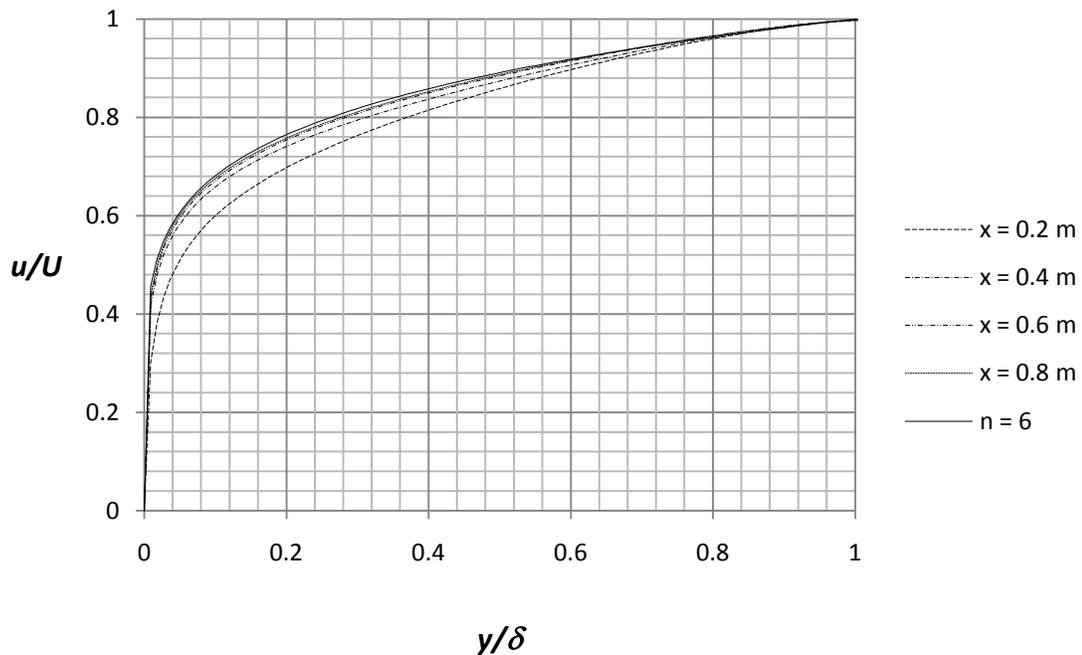

Figure 2.31 Profiles in figure 2.30a) compared with one-sixth power law for turbulent profile.
33. Place the file “xy-plot figure 2.31” into the **Local Disk** (C:)/SolidWorks/COSMOSFloWorks/FloWorks/lang/english/template/XY-Plots folder to make it available in the **Template** list. Repeat step 24 and choose the sketch $x = 0.2, 0.4, 0.6, 0.8$ m and check the box for **X-Velocity**. Rename the xy-plot to **Comparison with One-Sixth Power Law**. An Excel file will open with figure 2.31. In figure 2.31 we compare the results from FloWorks with the turbulent profile for $n = 6$. The power-law turbulent profiles suggested by Prandtl are given by
It is seen that for the higher Reynolds numbers in figure 2.31, that the velocity profiles resembles the one-sixth power law.